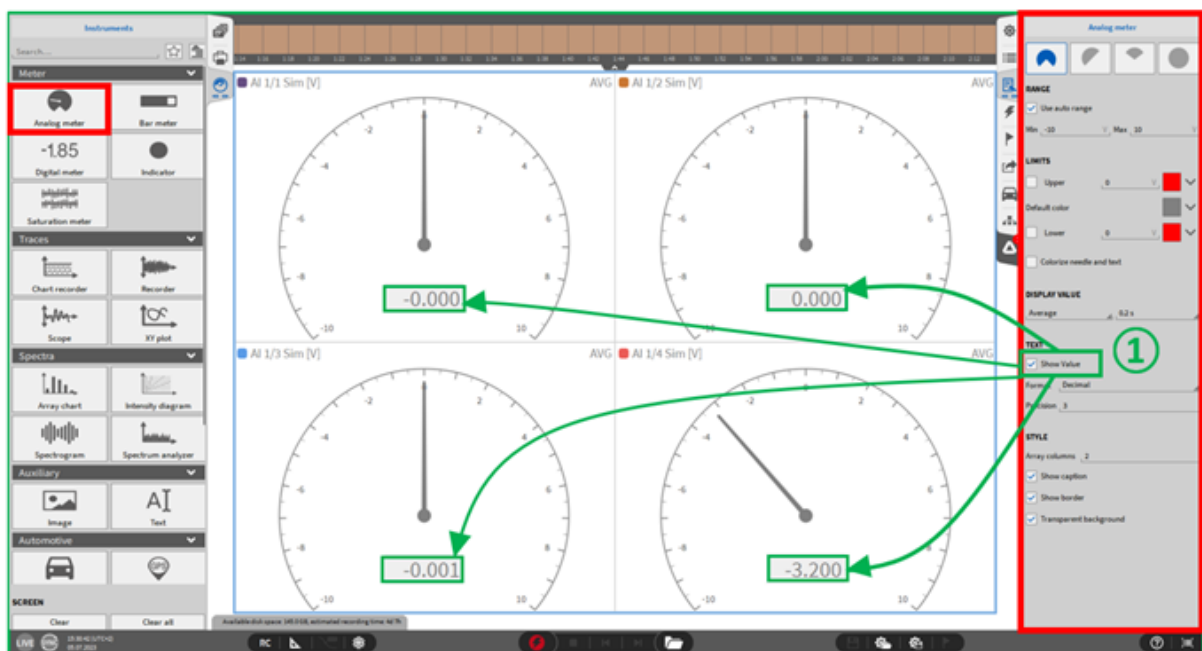

Fig. 8.8: Analog meter - Overview
- Show value: If the checkbox for “Show value” is activated (see ① in Fig. 8.8), the value is additionally shown in digital form in the analog display.